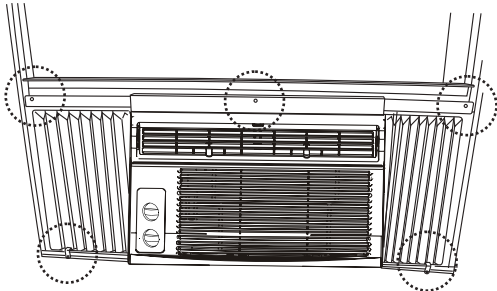

Fig.8
2. Drive 3/4" (19mm) or 1/2" (12.7mm) locking screws through frame holes into window sash (Fig.8).